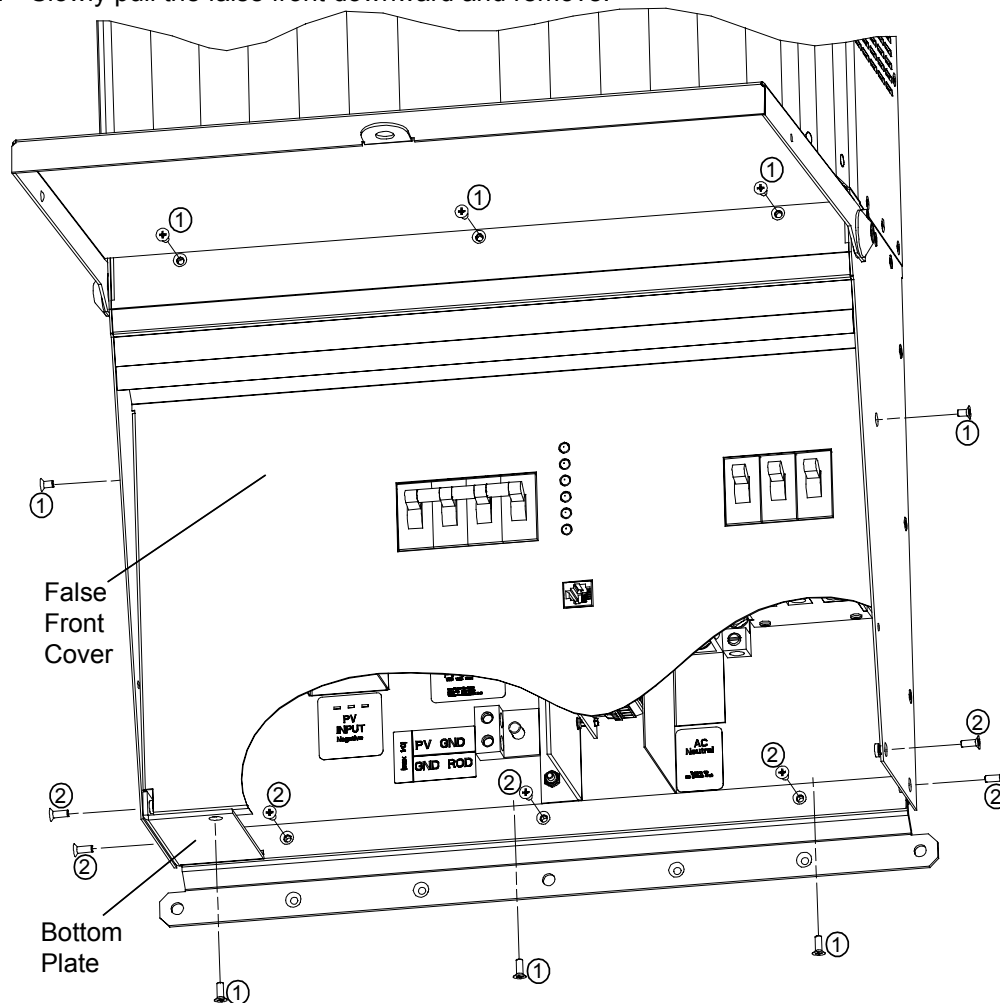

Figure 8: False front screws: ①
1. Remove the 8 screws marked with the symbol ① as shown in Figure 8.
See Figure 8 for removal instructions of the 7 screws to remove the bottom plate. The screws are marked with the symbol ②. Once the plate is removed, punch the necessary holes for the conduit connections